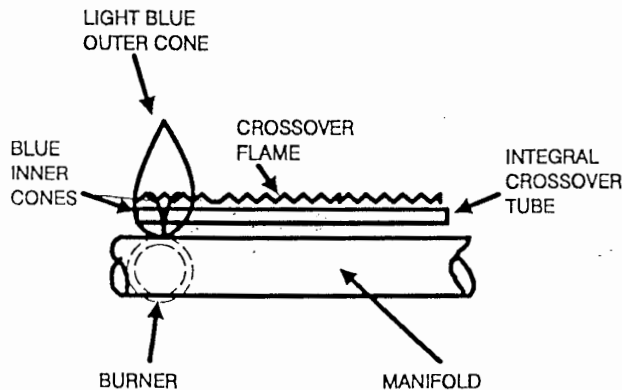

FIGURE 6 - PROPER FLAME APPEARANCE
4. Observe through the observation port to see if all flames are now blue in color. See Figure 6 for proper flame pattern. If yellow flames are still visible, repeat steps 2 thru 4.